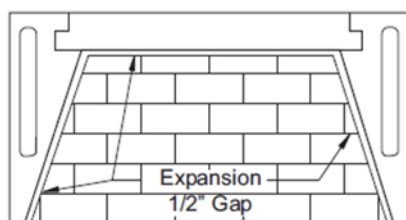

FIGURE 26
1. Start the firebrick at the front edge of the floor of the Isokern firebox, proceeding inward toward the back. Let the floor brick gap approximately 1/2" off the back wall and side walls. This air space allows heat expansion of the firebrick and is to be left empty of mortar. (Figure 26)